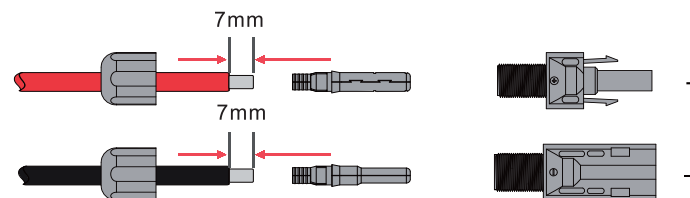

Figure 4.1-1 Pv cables and pv plugs
**Step 1.** Strip the insulation of the PV wire by 7mm, disassemble the cap nut of the connector, thread one PV wire through the cap nut of the connector. Repeat this operation with all the PV wires, paying special attention to the polarity of the connector, as shown in Figure 4.1-1.